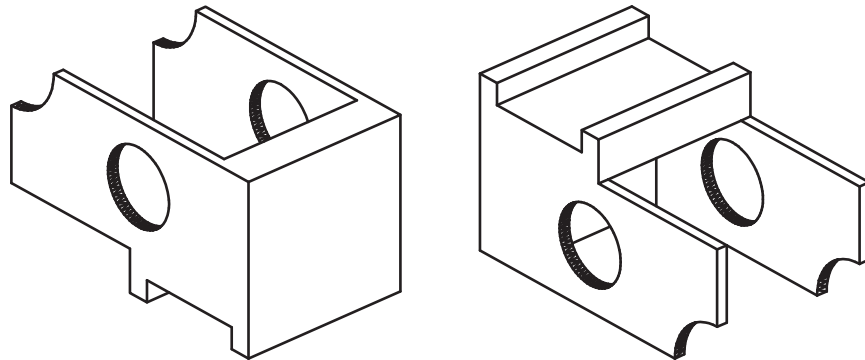

Fig. 44-10
2. Create the composite solid shown in Fig. 44-10.